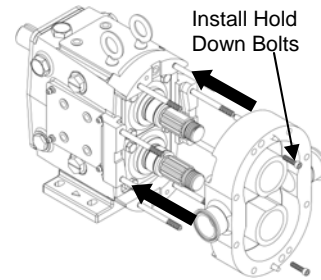

**Figure 60: Installing Gear Casing Back Cover**
10) Apply a light film of lubricant to the inside and outside diameters of the gear case cover oil seal. Using a press, install the oil seal into the back cover so that it is flush with the outside of the back cover and the spring is facing the gears. Apply a silicone sealant to the edges on the back of the gear case making sure there are no gaps. Slide the back cover onto the gear case, making sure that the shaft is centered on the oil seal, and secure it with the retaining bolts (Figure 60). It is important not to cut the oil seal on the shaft keyway; tape may be used to cover any sharp edges on the shaft. Install the oil plugs and fill the gear case with the recommended amount of oil using Table 3 on page 12.